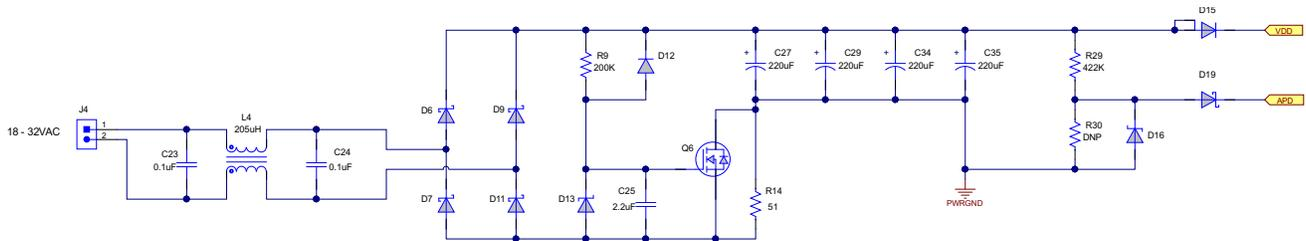
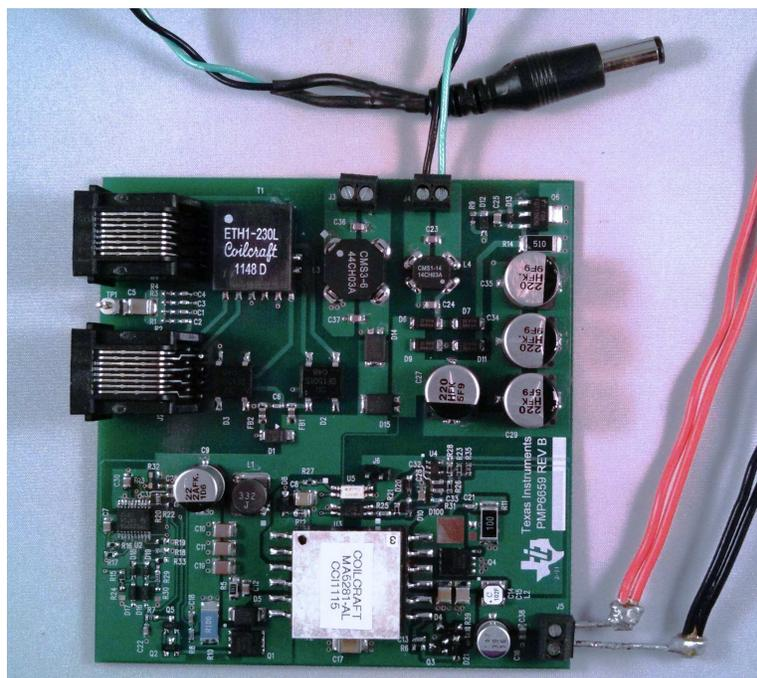

Figure 8. PMP6659 AC-Adapter Input Schematic
Figure 9. PMP6659 AC-Adapter Input Setup
As shown in Figure 8 and Figure 9, connect an adapter input of 18 to 32 VAC to J4 (see Section 8 for the PMP6659 schematic). The output power is transmitted from the J5 connector.
3. 24-VAC input at J4 (see Figure 8 and Figure 9)